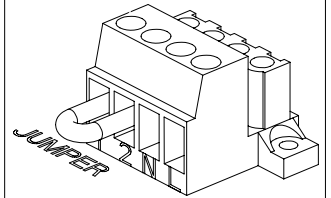

Figure 1
- Figure 1: Open the front cover